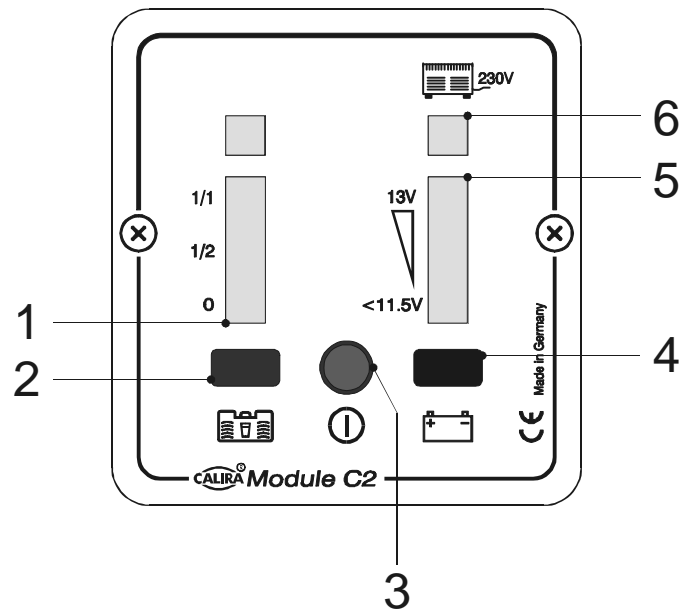

Fig. 1: Module C2
The main switch relay in Module B is activated by operating the main switch (illuminated button fig. 1 pos. 3). The main switch shines green when switched on. The 12 volts consumer can be switched to ON (button shines green) using the main switch and with a further actuation switched OFF, in connection with the main switch relay.
The charging control display lights up (green, fig. 1 pos 6) independently of the main switch, if the Module B is in mains charging operation and the supply battery is charged. Charging process see Module B description.
By pressing the button (fig. 1 pos. 4) the supply battery voltage on the battery voltage display (fig. 1 pos. 5) is shown by means of a LED chain.
By pressing the button (fig. 1 pos. 2) the fresh water tank display (fig. 1 pos. 1) is activated and the tank content level is shown by means of a LED chain in quarters.